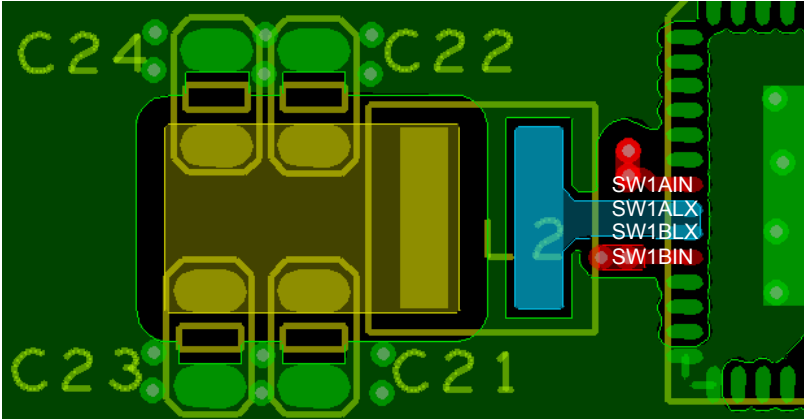
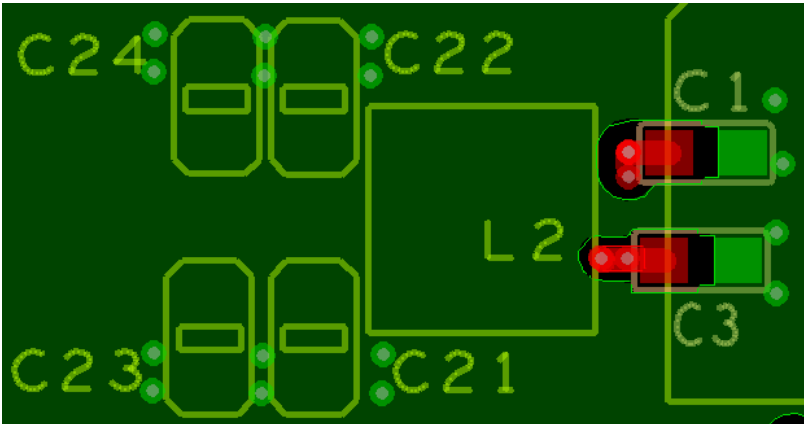

Figure 4. SW1AB layout - top layer components + top silkscreen
Figure 5. SW1AB layout - bottom layer components + top and bottom silkscreen
In the buck regulators of the PF0100, the top and bottom MOSFETs are integrated within the package. Hence, placement of the input capacitor close to the SWxIN pin and the exposed pad (EP) is critical. Figure 4 and Figure 5 show an example layout for the buck regulators.